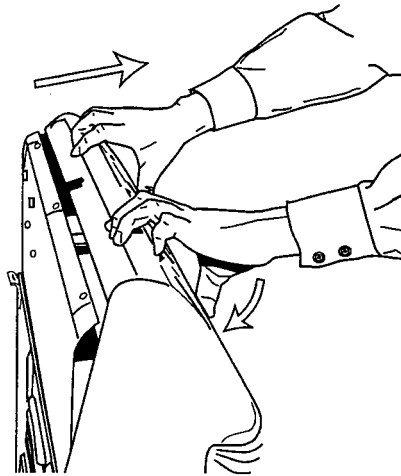

Figure 4-3
5. Roll the top of the console forward, (See *Figure 4-3*).